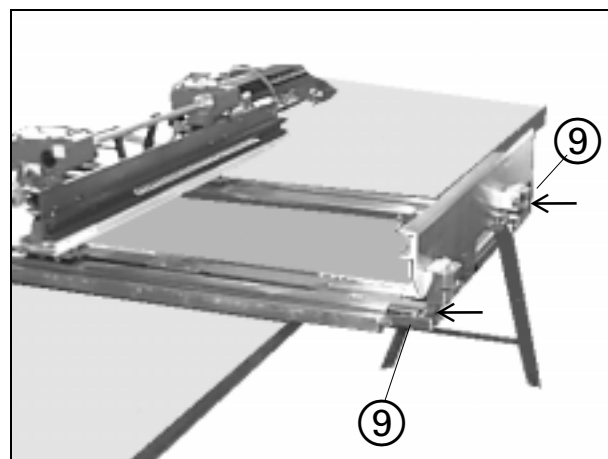

Fig. 9
- Place the transverse carriage on the tabletop (lower portion facing upward, Fig.9)
- Remove the Allen set screws (9/Fig.9) from both sides.
- Release the chain tension via the Allen screw 8 x 40 mm (y/Fig. 9).